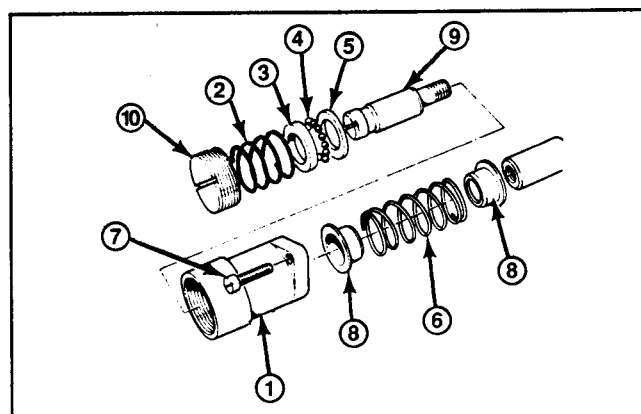

Figure 28
1. Remove the entire detent assembly (Fig. 28 and 29) from the control valve. Keep the backup washer, seal retainer and seal with the spool.